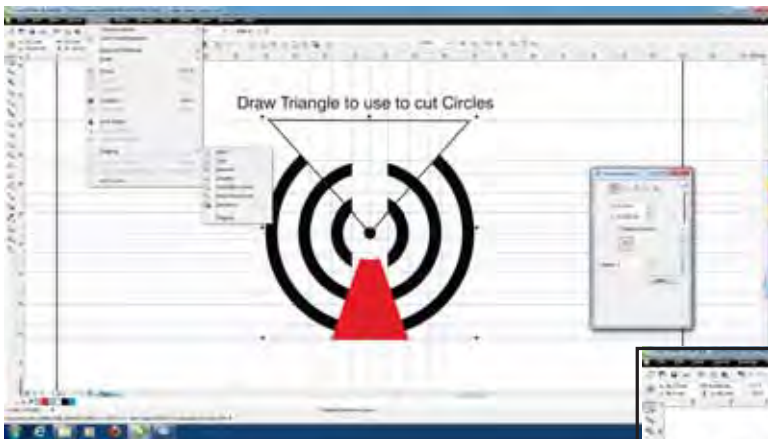

Fig.19
- 5. Now draw a diagonal line between these new guidelines and extend them beyond the drawing, as in Fig 19.